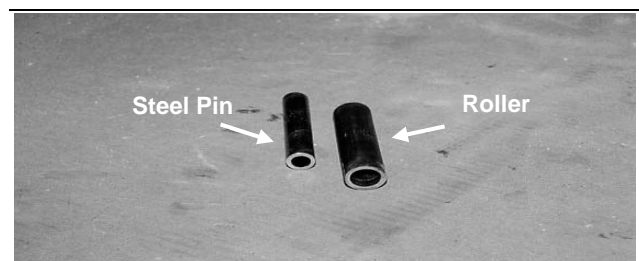

Figure 12-32A
- Inspect the rollers for wear and replace as necessary. The steel pin will normally not need replacing unless the roller has worn completely away and the steel pin is worn from engaging the track (fig. 12-32A & B).